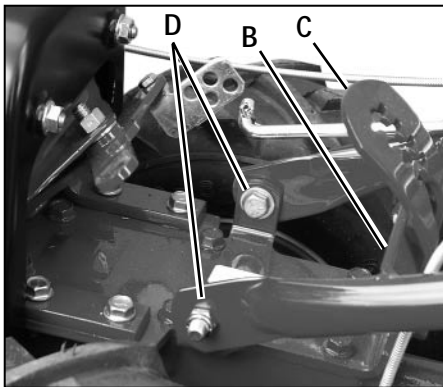

Figure 2-3: Attach handlebars.
2. Place the handlebar cross-brace (B, Figure 2-3) in front of the curved height adjustment bracket (C) and position the handlebar ends on the outside of the two mounting tabs on the transmission cover.
3. Loosely attach the handlebars to the mounting tabs with two 3/8-16 x 1" screws (heads of screws go to inside of tabs), 3/8" flat washers and 3/8"-16 Nylock lock nuts (see D, Figure 2-3).
6. Screw the height adjustment handle (F) into the hole in the handlebar cross-brace, making sure that the raised keys on the washer fit into the slot on the height adjustment bracket. Tighten the height adjustment handle securely. Next, securely tighten the two screws in the ends of the handlebars (D, Figure 2-3).